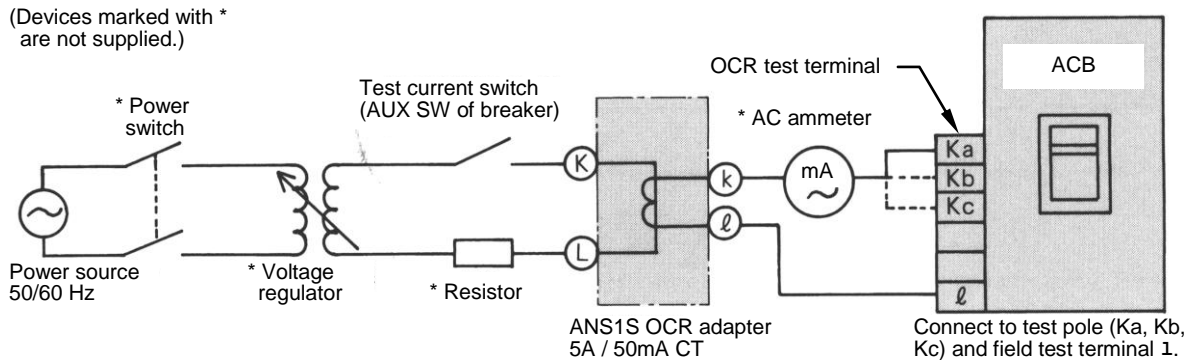

Fig. 14
- The OCR adapter shown in Fig. 14 is optional. This adapter should be used as a current conversion device.